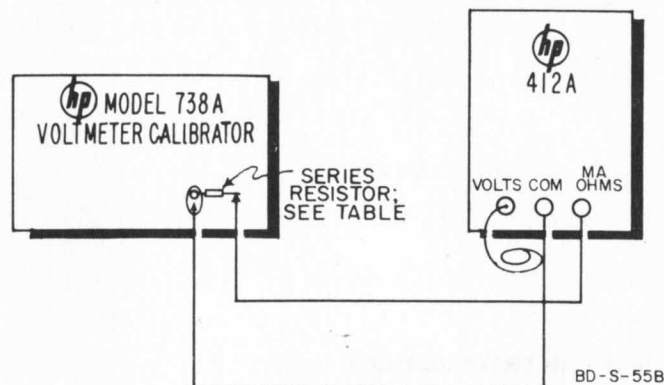

Figure 4-1. Equipment Setup for Current Check
- 3) Connect 412A to Voltmeter Calibration Generator as shown in Figure 4-1.